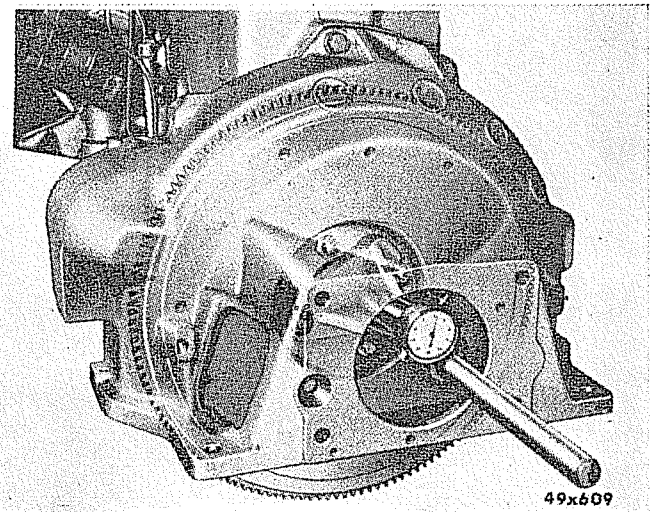

Fig. 9—Method of Attaching Fixture C-870 (Flywheel Type Housing)
- (3) Instal the fixture to the flywheel attaching bolts (Figure 9). Rotate the crankshaft and check the inside diameter of the housing bore, it should not vary more than .005 inch in one complete revolution of the crankshaft. If alignment is necessary, remove the dowel pins and tap the housing until it is within the specified tolerance. After obtaining correct alignment, tighten the housing cap screws.